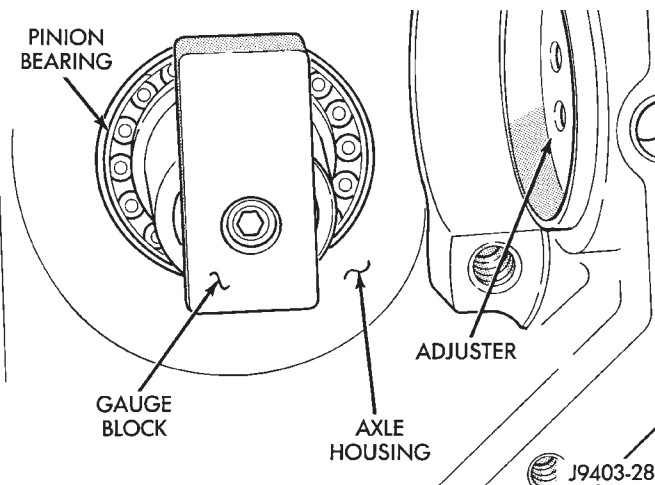
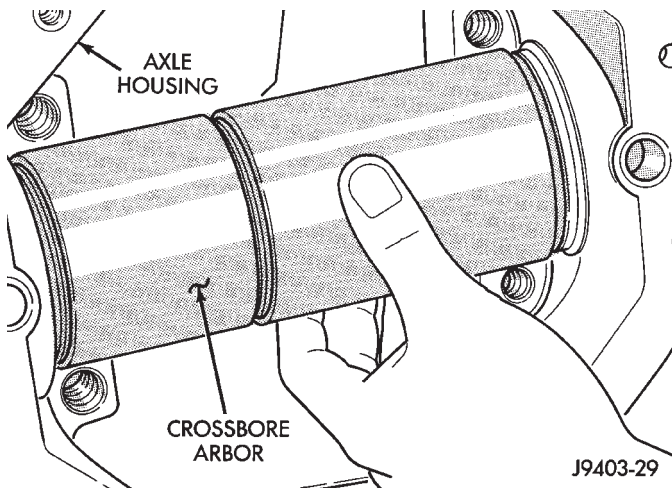
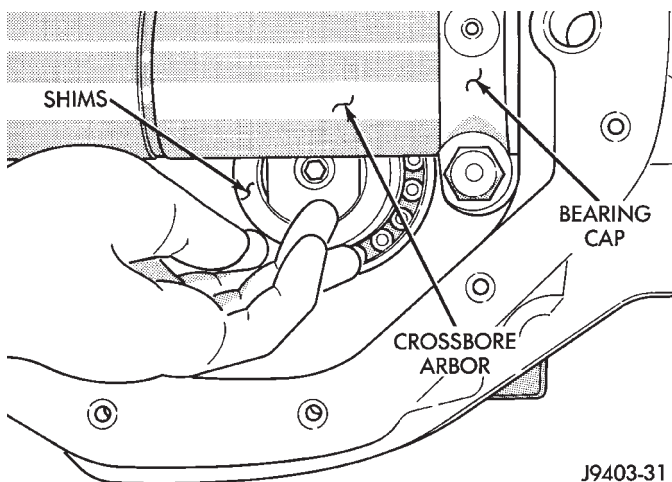

Fig. 54 Gauge Block
Fig. 55 Crossbore Arbor
Fig. 56 Depth Shim(s) Selection
- (12) Loosen the compression nut tool.
- (13) Lubricate the pinion gear front and rear bearings with gear lubricant.
- (14) Re-tighten the compression nut tool to 1-3 N-m (15-25 in. lbs.) torque.
- (15) Rotate the pinion gear several complete revolutions to align the bearing rollers.
- (16) Install Gauge Block (Fig. 54).
- (17) Install Gauge Block SP-5383 at the end of SP-5385.
- (18) Install Cap Screw SP-536 and tighten with Wrench SP-531.
- (19) Position Crossbore Arbor SP-6029 in the differential housing (Fig. 55).
- (20) Center the arbor tool.
- (21) Position the bearing caps on the arbor tool.
- (22) Install the attaching bolts.
- (23) Tighten the cap bolts to 14 N-m (10 ft. lbs.).
- (24) Trial fit depth shim(s) between the crossbore arbor and gauge block (Fig. 56). **The depth shim(s) fit must be snug but not tight (drag friction of a feeler gauge blade).**